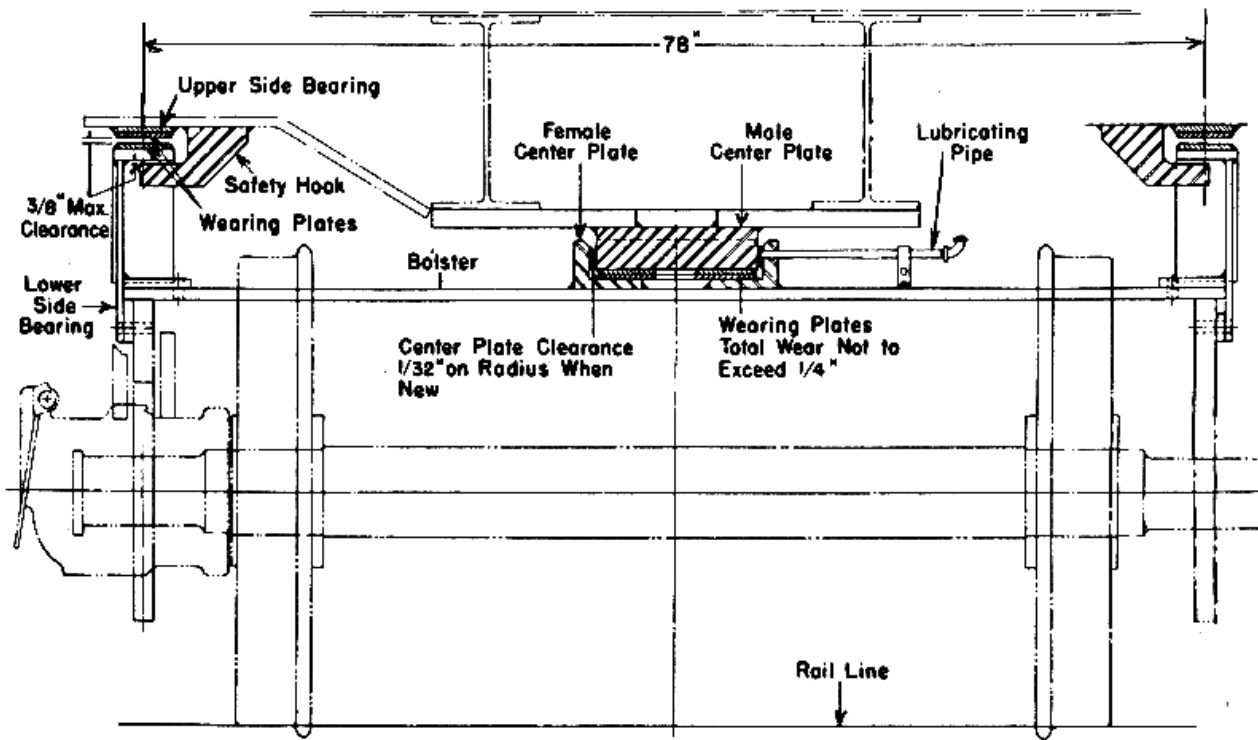

Figure 41. Typical center and side bearings, sectional view.
*a. Description.* Side bearings are used on swivel truck locomotives between the cab underframe and the trucks to limit the tilt of the cab with respect to the trucks. This locomotive has renewable wear plates of high-carbon steel (SAE 1045) on the underside of the platform only, as rollers are mounted on the top of the truck bolsters. (fig. 41.)